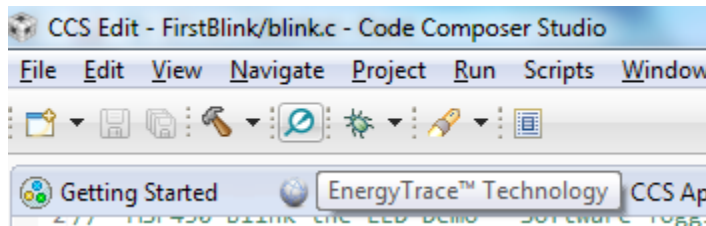

Figure 4-2. EnergyTrace Button in the Toolbar Menu
2. Press the EnergyTrace Technology button in the toolbar menu (see Figure 4-2). You don't need to build or start debug session.